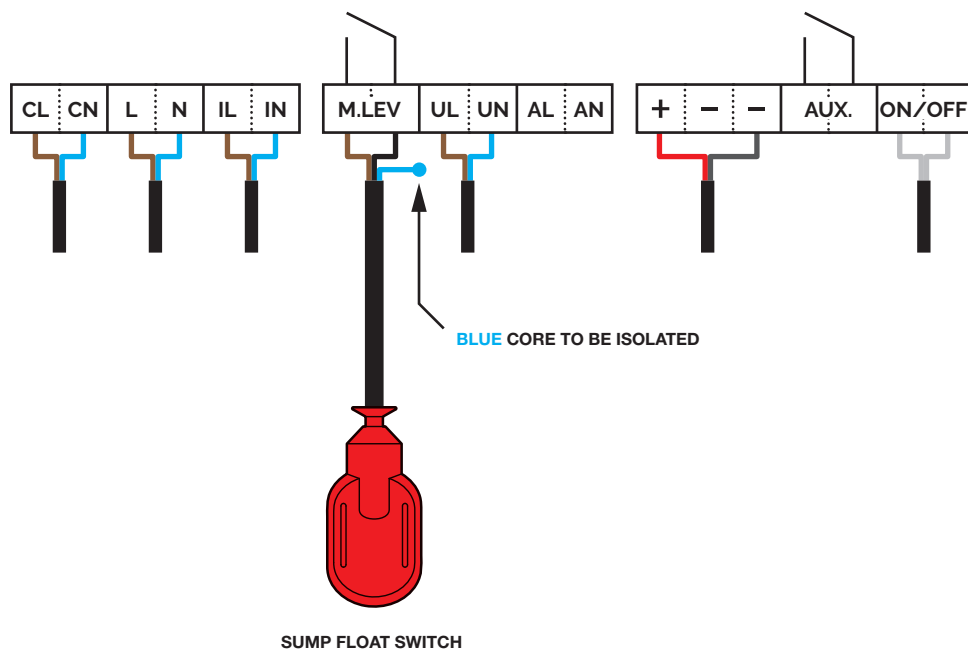

Figure 14. Connecting the sump float to the Delta Battery Backup.
3. Connect the brown core to positive and the black core to the negative terminal, as shown in Figure 14.